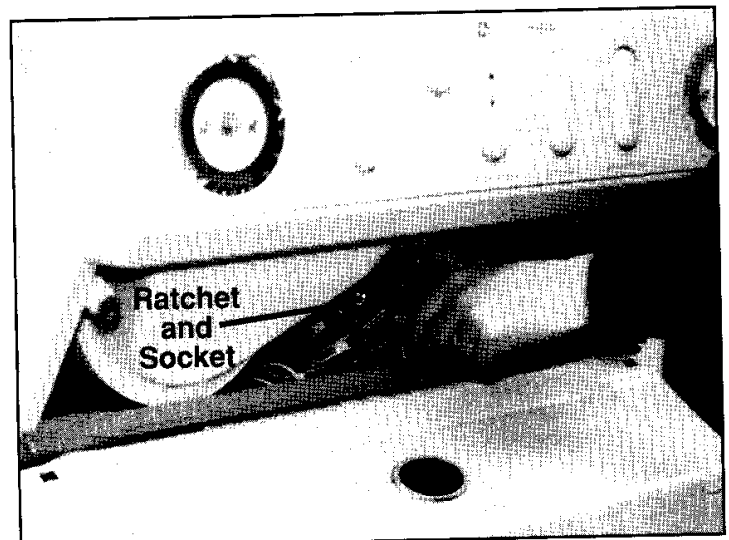

Figure 50
- 21.** Secure the access cover to the base of the upper dryer using a ratchet and the #10 hex head access cover screw removed in step 20. (See figure 50.) **NOTE:** Apply rearward pressure on the access cover while applying final torque to screw.